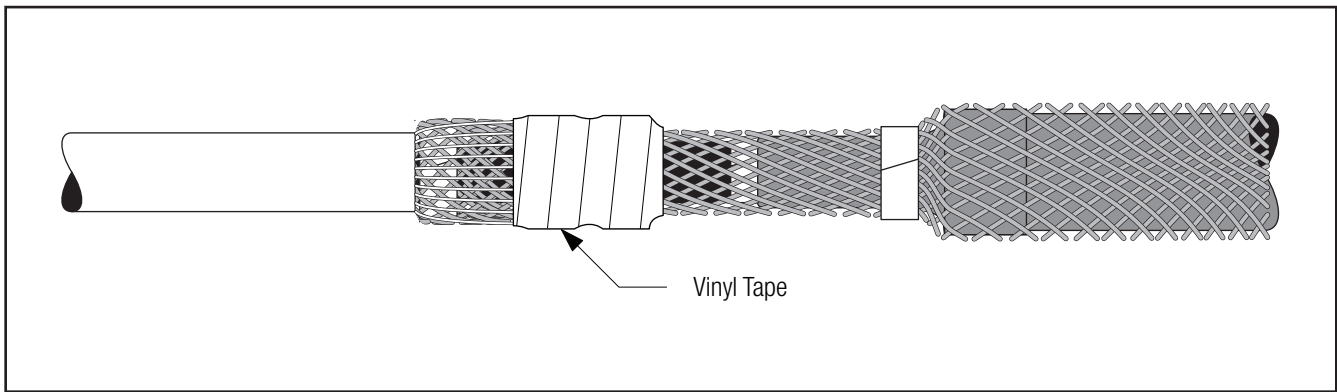

Figure 27
6.3.3 Wrap two layers of stretched vinyl tape over springs (*Figure 27*).